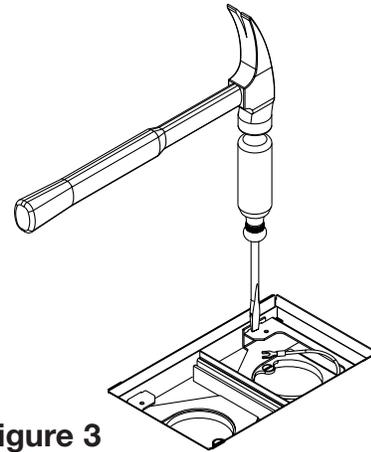

Figure 3
3. Using a hammer and a screwdriver tap the adaptor until it sits flush with the bottom of the preset. **Do not trap ground wire below adaptor** (see Figure 3).